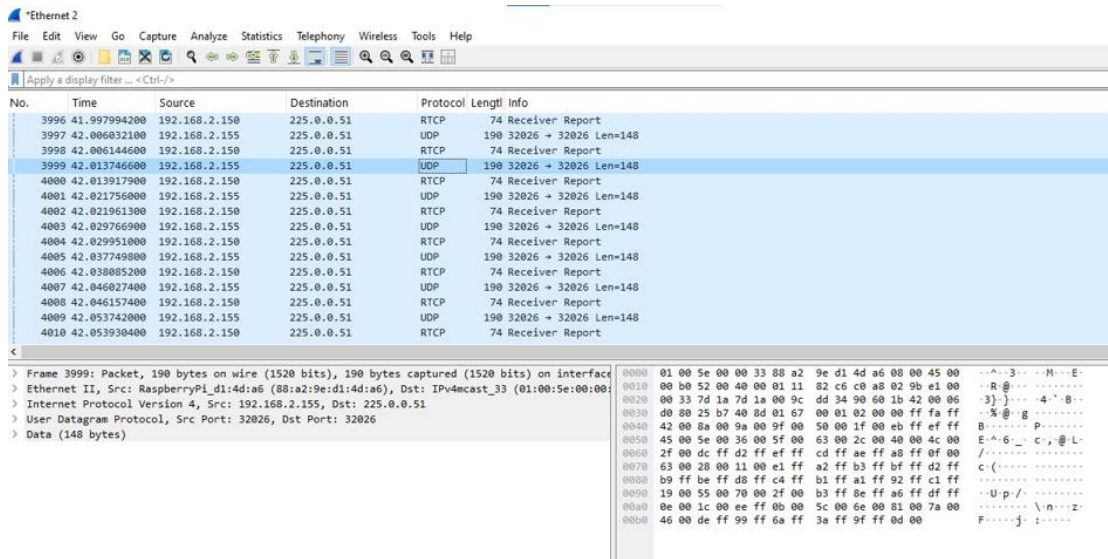

Figure 42: Wireshark Capture window
- 7 Capture window will open as shown in Figure 42.